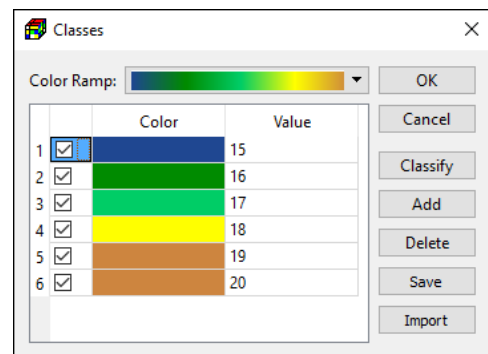

Figure 148. The Classes dialog box
- **Contour Levels:** The contour levels can be defined by clicking on the  button to open the Classes dialog box (Figure 148).